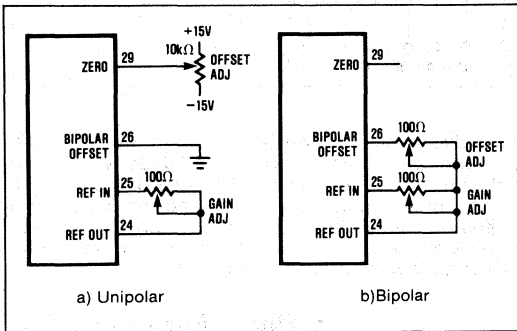

Figure 2. Unipolar and Bipolar Calibration Circuit.
**Note 11:**  $t_7$  is defined as the time required for the data lines to change 0.5V when loaded with the circuits of Figure 2.
Keeping in mind that the offset must always be adjusted before the gain, set the system into a mode of continuous conversions with a high repetition rate (>1kHz) while monitoring the output data lines using an oscilloscope, logic analyzer triggered on EOC, or LED's driven by latched data outputs clocked by EOC. Using a DVM, set the input voltage 1/2 LSB above -Full Scale (-FS) for the appropriate range (Table 1). Adjust the offset potentiometer (Figure 2) so that the LSB (B12) alternates between a "0" and "1" with a 50% duty cycle with all the other bits OFF. Using LED's, the LSB will appear at half intensity. The gain is similarly set by applying a voltage of +FS - 1/2 LSB (Table 1) and adjusting the LSB for the same 50% ON condition with the exception that all the other bits are ON.